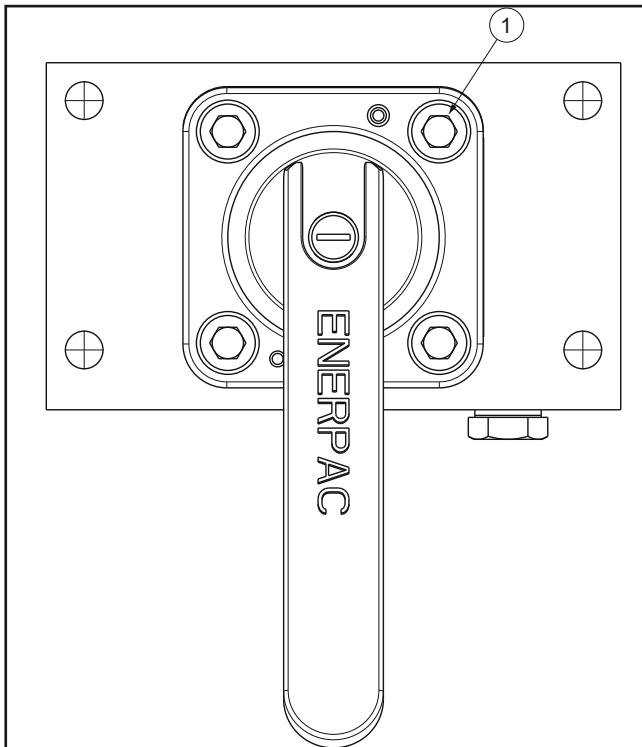

Figure 1: VM33 Disassembly
1. Loosen and remove the 4 M10x60 screws (Item 1, Figure 1) from the top of the valve (Item 2, Figure 1).